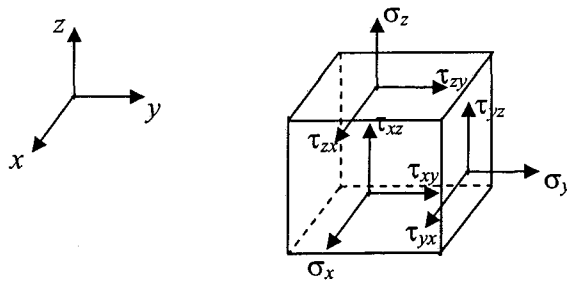

Figure 1
1. (a) Figure 1 shows an infinitesimal volume in a three dimensional body under stressed condition. Using the notation of: